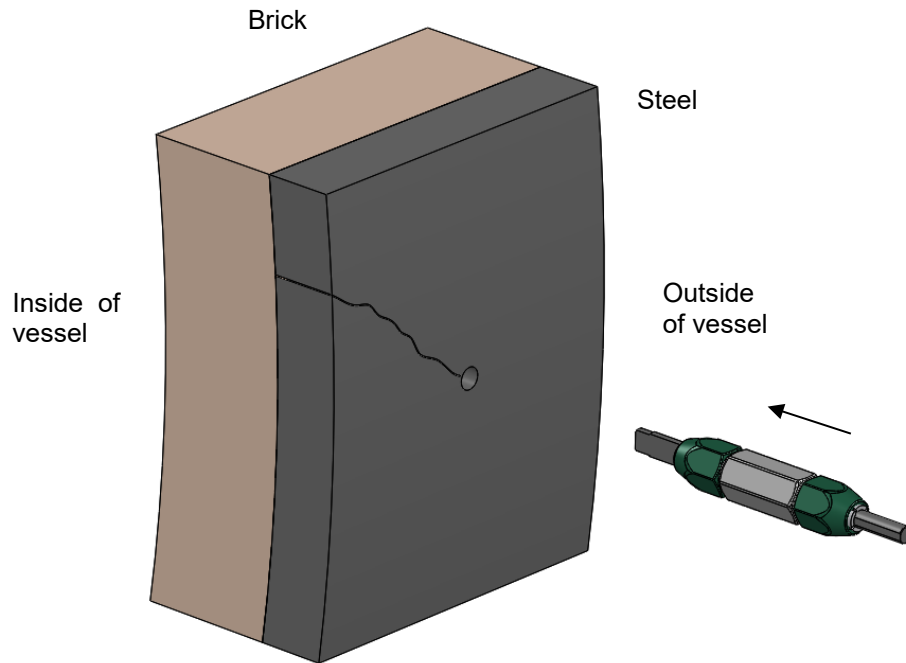

Figure 6.2-13
1. Verify the starting hole is to size using the blade end of the combination gage BTCG-1533-A-0 as shown in Figure 6.2-13 and 6.2-14. Rotate gage 90 degrees to check for ovality.